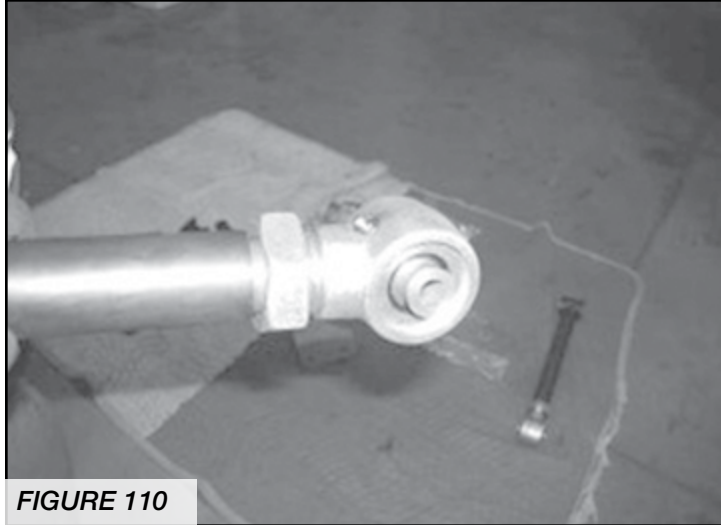

FIGURE 110
53. Locate FT50346BK Rear Lower Links, (8) FT1003 Bushings, (2) FT7100-6-100 Sleeves, (4) FT50123 Large Adjustable Joints, and (4) large jam nuts. Install the jam nuts onto the joints and insert the joints into the arms. Adjust the joints so the link is 32 1/2" center to center of the joints (Make sure there is an equal amount of threads on both ends. This is just a starting point. Further adjustments may be necessary during the final alignment). Using a press and the supplied bushing lube, install the bushings into the arms and the sleeves into the bushings. **SEE FIGURE 110.**